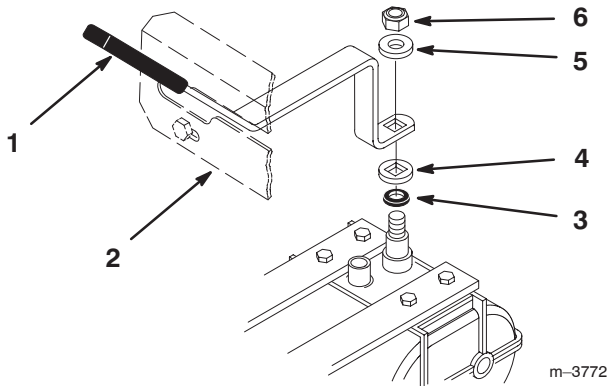

Figure 11
1. Remove the locknut (3/8 inch) and spring washer from the stud on top of the transmission (Fig. 11).
2. Slide the shift lever through the control panel and align the mounting hole in lever with square on transmission shaft (Fig. 11).
3. Secure lever to transmission with previously removed spring washer and locknut (Fig. 11).
4. Replace the spring washer, dish down, and locknut (Fig. 11).